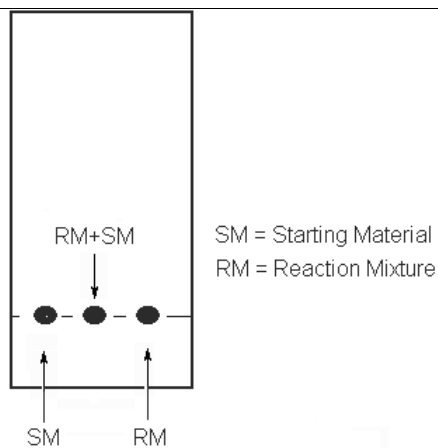

Figure 2.1. A TLC plate
- ii) Draw a start line on the lower portion of TLC plate with a pencil (Fig. 2.1).
- iii) Apply starting material from the vial labeled as **SM** two times to the spot on the left and then two times to the spot in the middle of plate. To the same plate, apply the reaction mixture (**RM**) taken from the reaction flask once to the spot on the right and then once to the spot in the middle as shown in Figure 2.1 (use a different capillary tube for each sample).